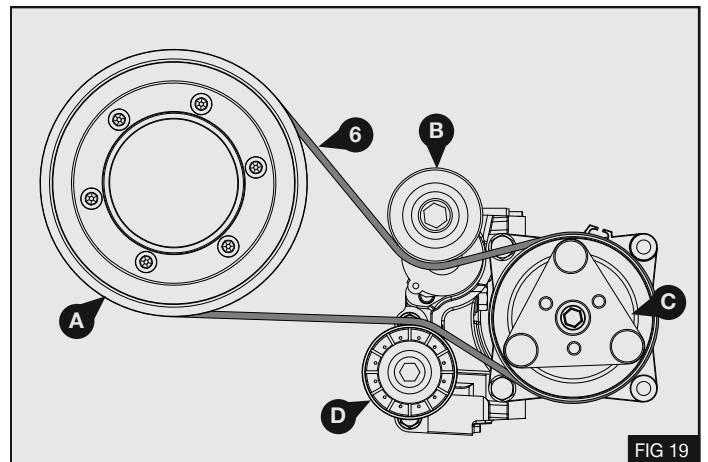

FIG 19
1. Install the supplied drive belt (6) as shown opposite – Fig 19